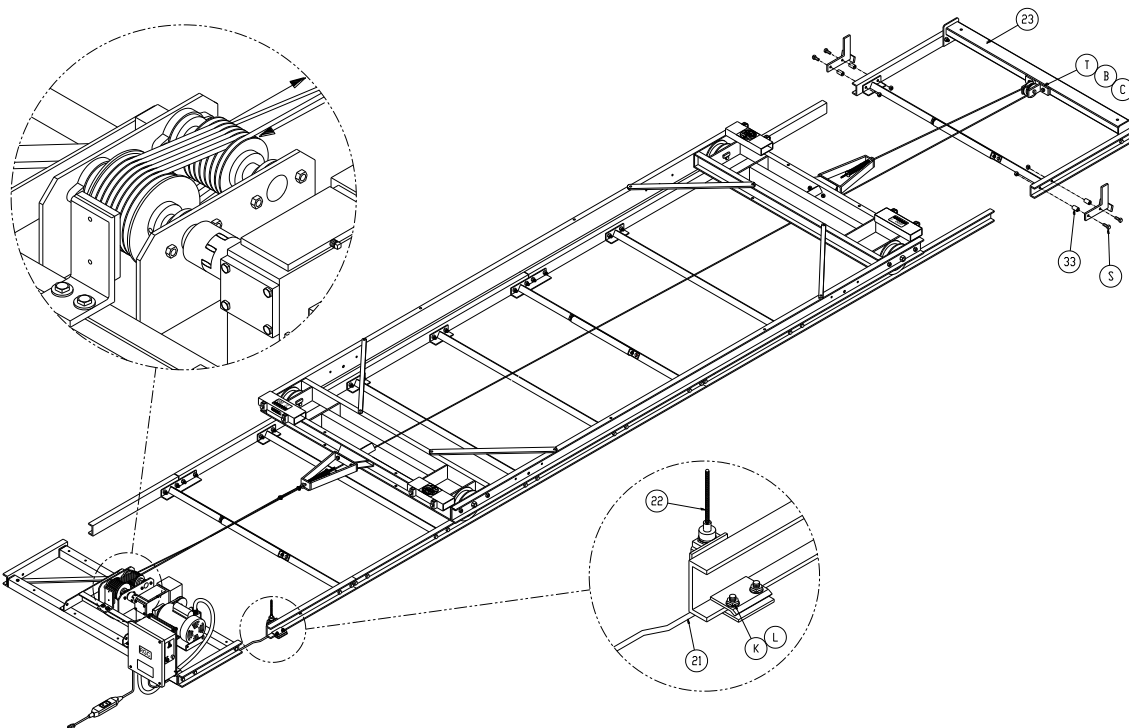

Figure 3-4.
1. Refer to Figure 3-4. Fasten the limit switch to the railway track on the motor side of power drive as shown. Ensure switch is installed far enough away from the power drive to prevent contact between power drive and carriage or boat.
3. **Refer to Figure 3-4 & 3-5.** Attach one end of the wire rope to eye nut (U) of the spring frame on front of carriage by looping it through the eye nut and securing with two cable clamps (O).
5. **Refer To Figure 3-4.** Run wire rope under carriage to water end support and up through the pulley assembly.
7. **Refer to Figure 3-4.** Pull all slack from entire wire rope length and secure with both remaining cable clamps (O).